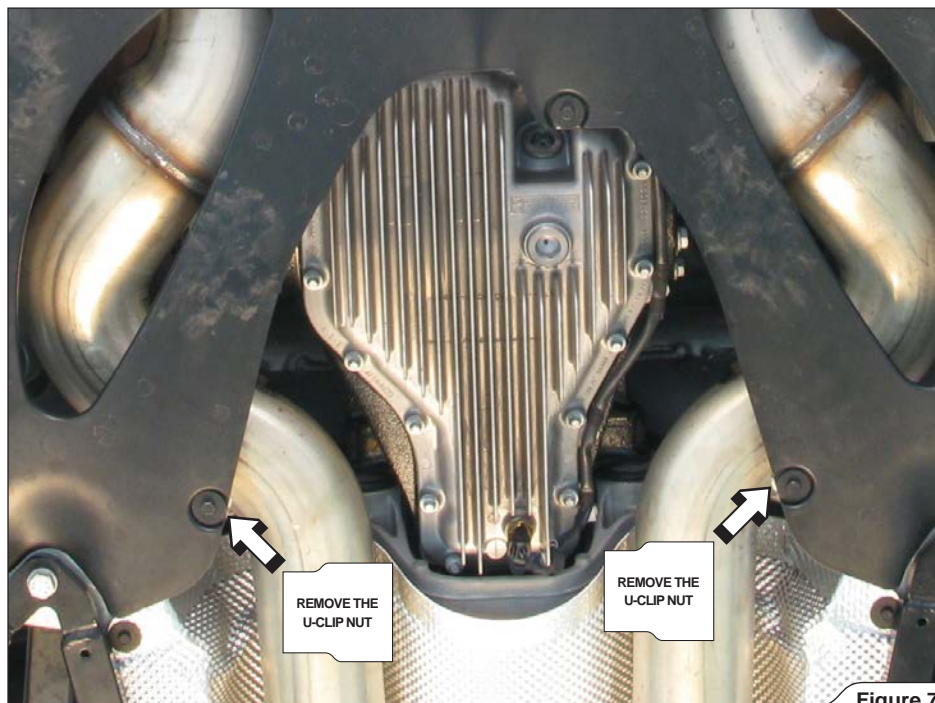

Figure 7
5. After removing the plastic differential protection, remove the two marked u-clip cage nuts off the aluminium differential protection (**Figure 7**).